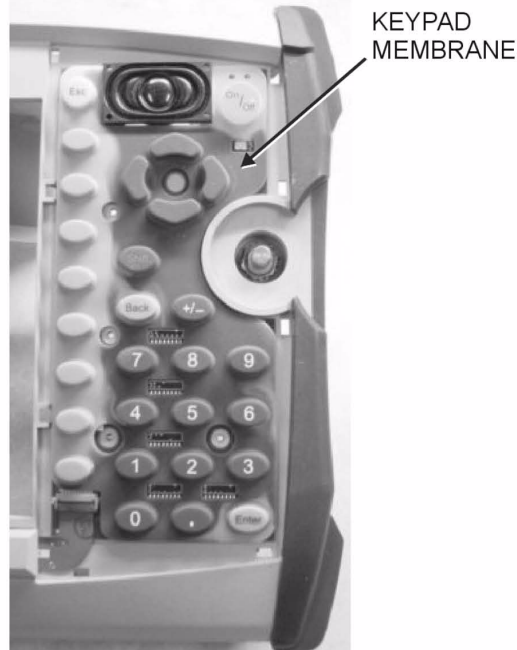

Figure 5-10. Keypad Membrane
4. Remove the keypad membrane by carefully lifting the speaker and pulling the membrane off of the keypad PCB (Figure 5-10).